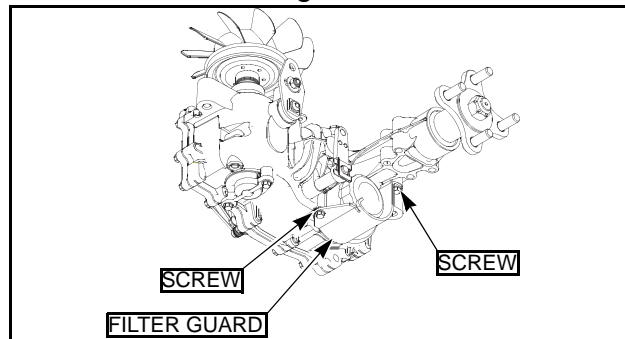

Fig. 9-6
2. Remove the three 1/4" filter guard screws and filter guard. Clean any loose debris from around the filter Fig. 9-6